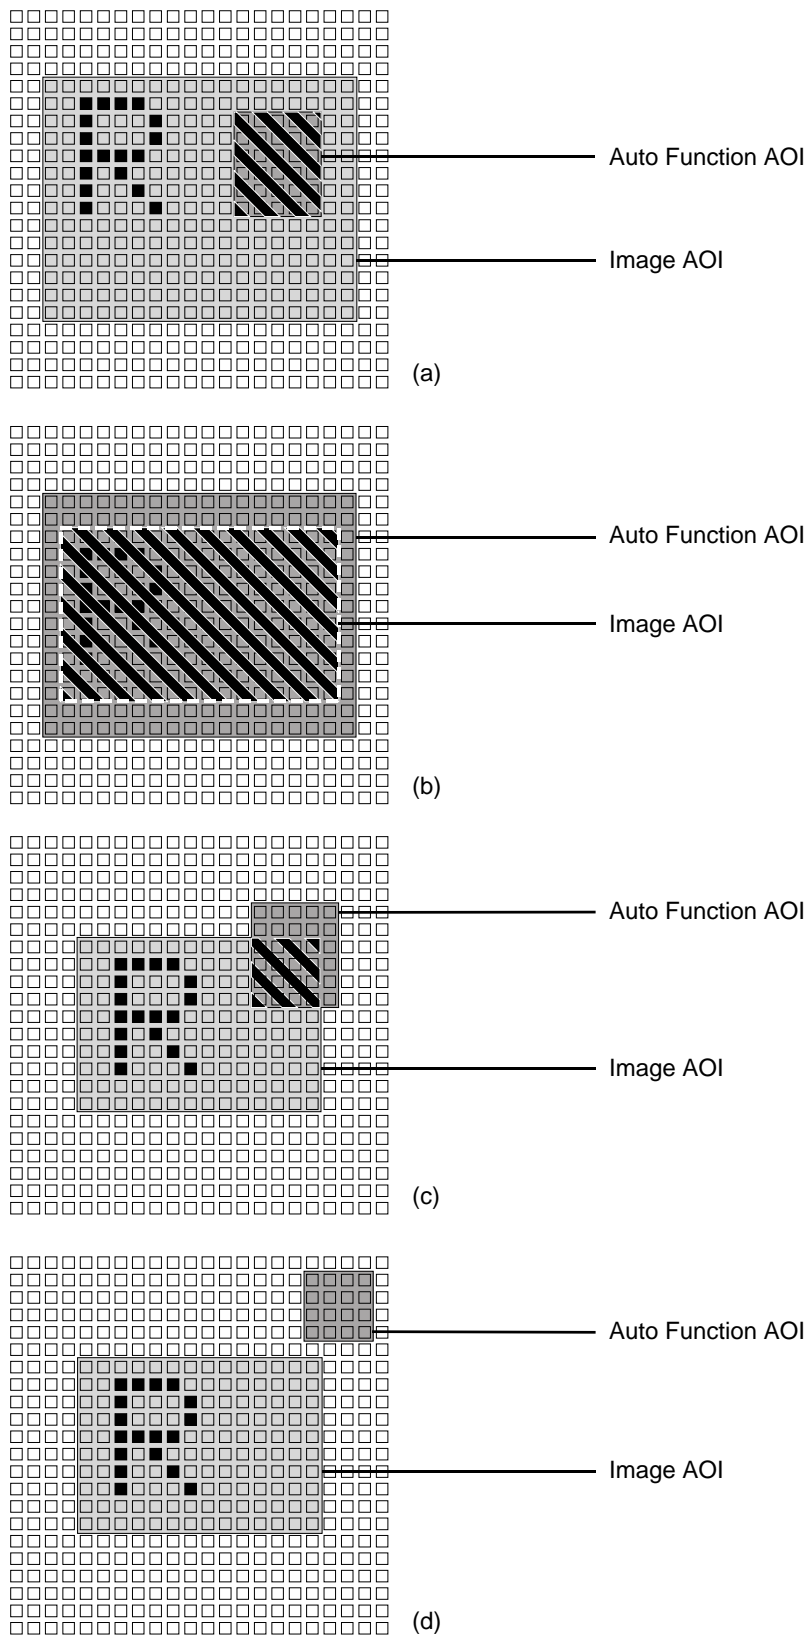

Fig. 60: Various Degrees of Overlap Between the Auto Function AOI and the Image AOI
Different degrees of overlap are illustrated in Figure 60. The hatched areas in the figure indicate areas of overlap.
- If the Auto Function AOI is completely included in the Image AOI (see (a) in Figure 60), all pixel data from the Auto Function AOI will be used to control the image property.
- If the Image AOI is completely included in the Auto Function AOI (see (b) in Figure 60), only the pixel data from the Image AOI will be used to control the image property.
- If the Image AOI only partially overlaps the Auto Function AOI (see (c) in Figure 60), only the pixel data from the area of partial overlap will be used to control the image property.
- If the Auto Function AOI does not overlap the Image AOI (see (d) in Figure 60), the Auto Function will **not** control the image property. For details, see the sections below, describing the individual auto functions.